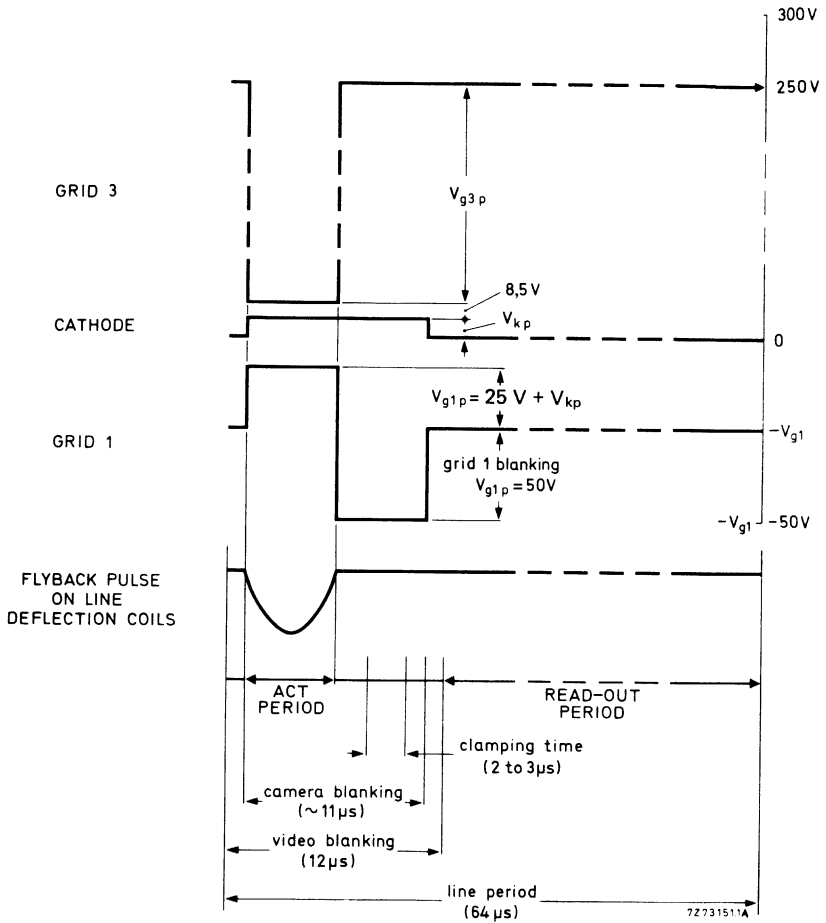

Fig. 1.
b. A suggested pulse timing and amplitude diagram is shown in Fig. 1.